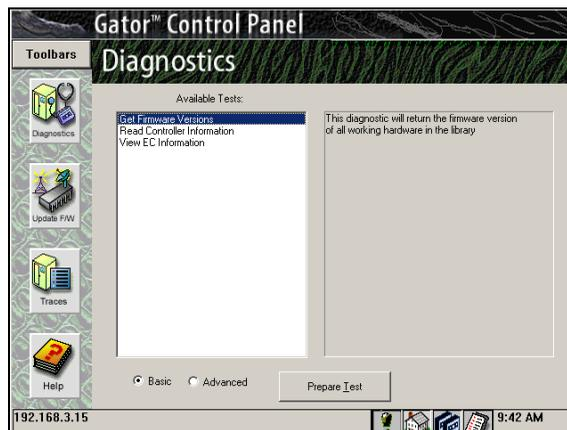

Figure 9-11 *Select Reset Picker.*
4. From the advanced Available Tests list, select **Reset Picker** (Figure 9-11).